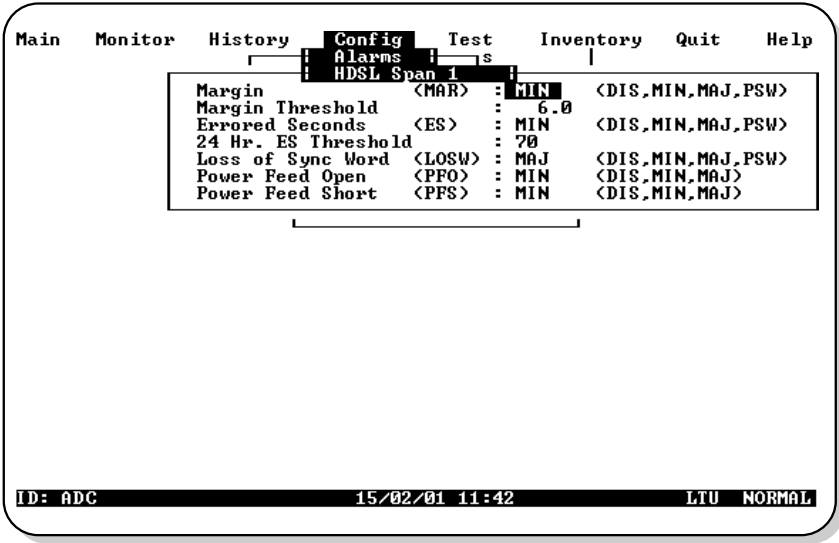

Figure 20. Config Alarms HDSL Span 1 Menu
- 1 Press **1** at the Config Alarms drop-down menu to display the Config Alarms HDSL Span 1 menu (Figure 20 below).